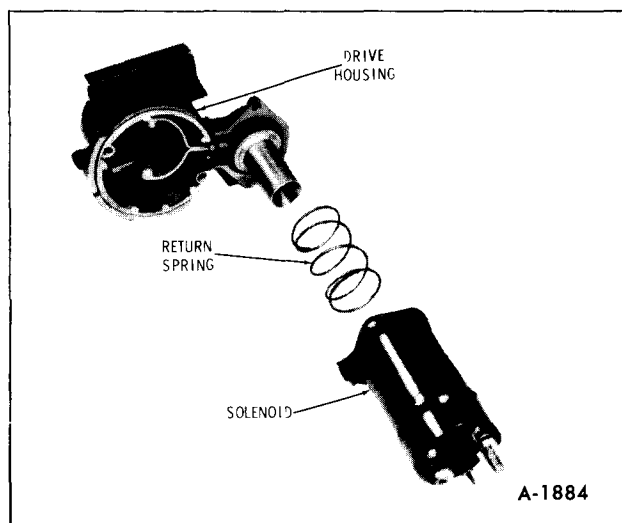

Figure 71—Solenoid Removal
a. Remove solenoid to drive gear housing attaching screws, then remove solenoid assembly. (figure 71)
- c. Install solenoid assembly to drive gear housing. (figure 71)